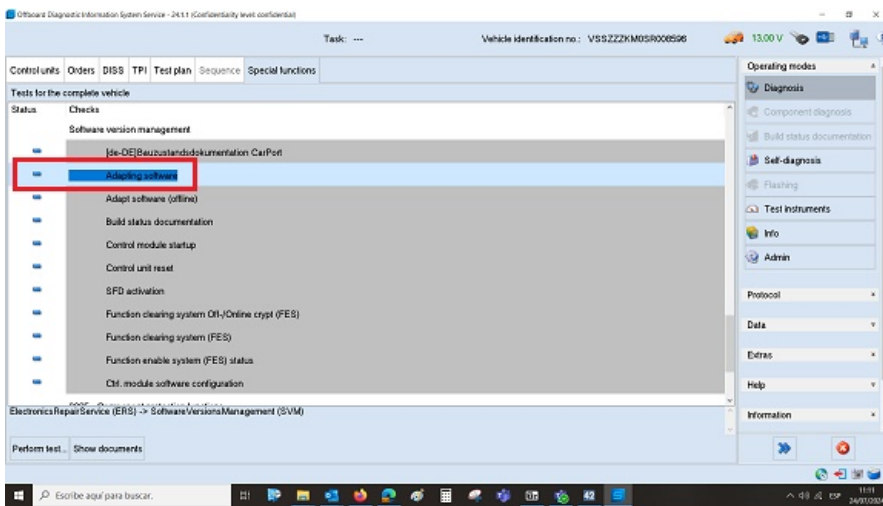
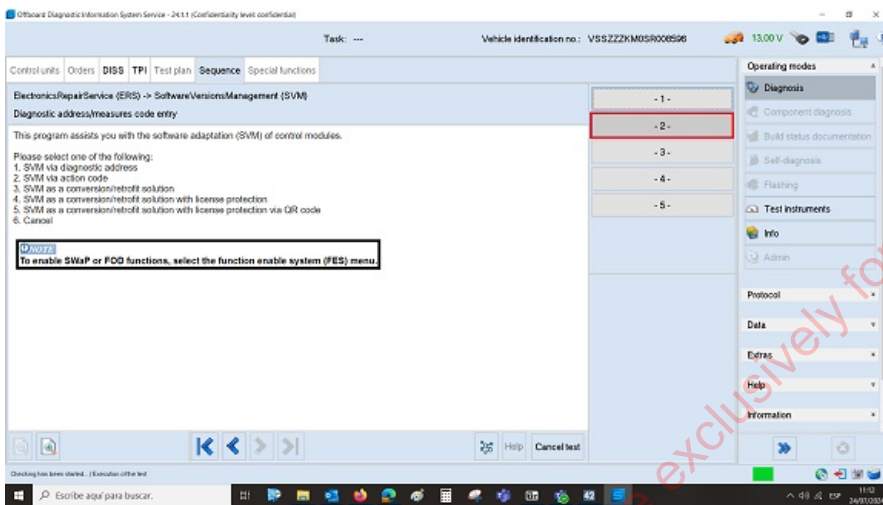

Figure 1: Example of the diagnostics equipment screen with option "software adaptation".
Figure 2: Example of the diagnostics equipment screen with option 2 "SVM test code".
- CUPRA FORMENTOR (KM) models: **SVM 5FFD40G44**
- To perform the software update, use the special function "software adaptation" (see Figure 1, red rectangle), select option 2 "SVM measurement code" (see Figure 2, red rectangle) and enter the SVM measurement code that corresponds to each model.